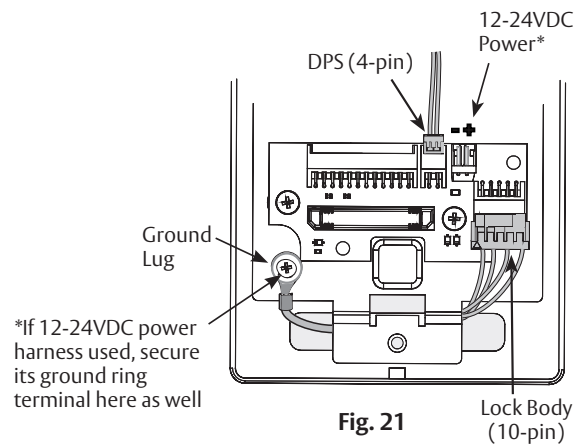

Fig. 21
- i. Secure the following connectors to their respective terminals (Figure 21):